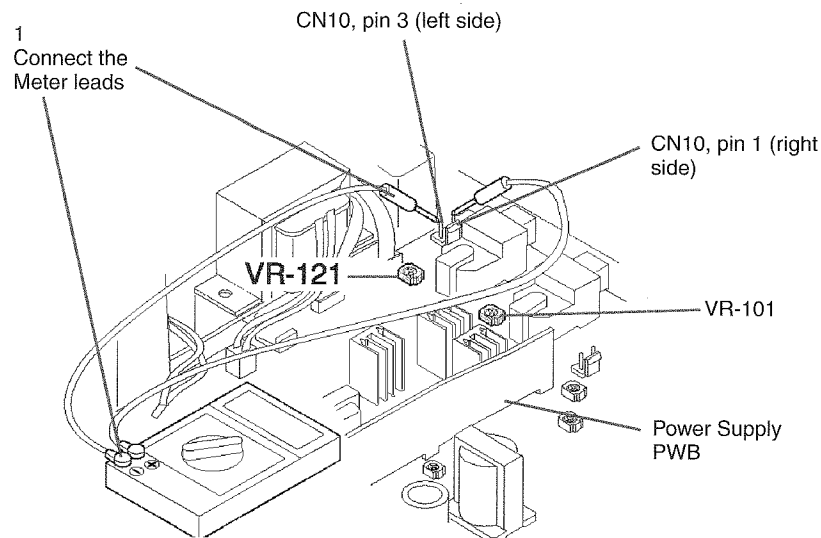

Figure 1 Adjusting the Developer Bias Voltage
2. ( Figure 1): Connect the positive lead to connector pin CN10-1